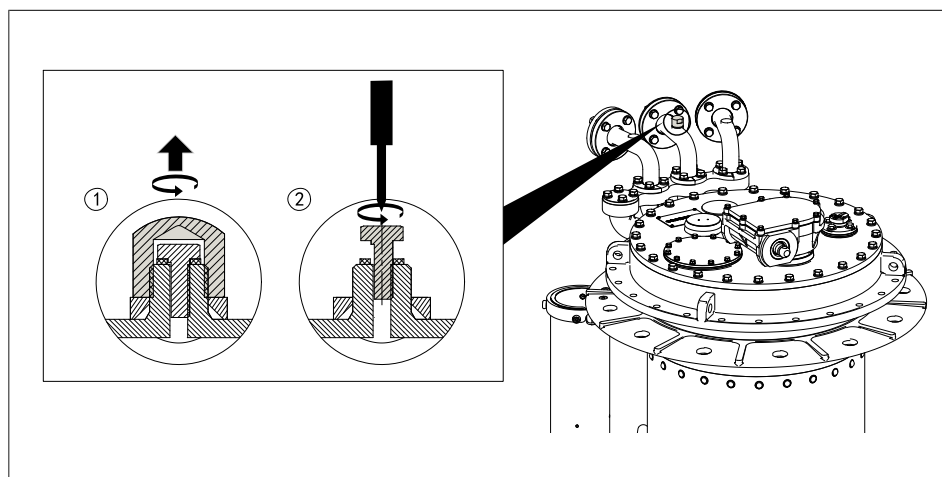

Figure 9-2 Exhaust at pipe connector S
- a. Use a 24 mm open-end wrench to remove the bolt cap (see Figure 9-2).